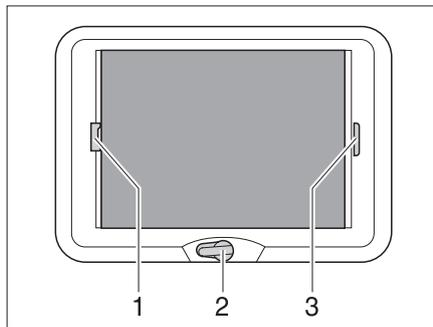

Fig. 37 Wind-up skylight
- ▶ Rotate the hand crank (Fig. 37,2) until a resistance can be felt (max. opening angle 70°).
- ▶ Pull the handle of the Roman shade (Fig. 37,3) and release in the desired position. The Roman shade will stay in that position.
- ▶ Pull insect screen at the handle (Fig. 37,1) to the opposite handle of the Roman shade (Fig. 37,3) and allow to engage.
- ▶ Press the handle of the insect screen (Fig. 37,1) at the back upwards and detach the insect screen from the Roman shade (Fig. 37,3).